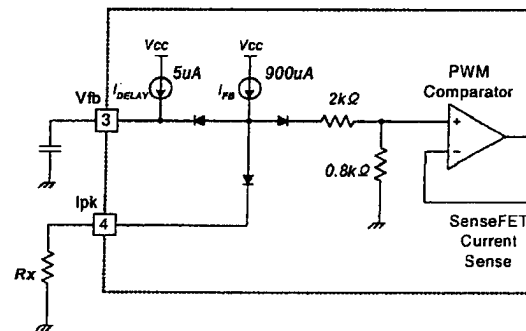

Figure 10. Peak Current Limit Adjustment
8. **Adjusting Peak Current Limit:** As shown in Figure 10, a combined $2.8\text{k}\Omega$ internal resistance is connected to the non-inverting lead on the PWM comparator. An external resistance of R_x on the current limit pin forms a parallel resistance with the $2.8\text{k}\Omega$ when the internal diodes are biased by the main current source of $900\mu\text{A}$.